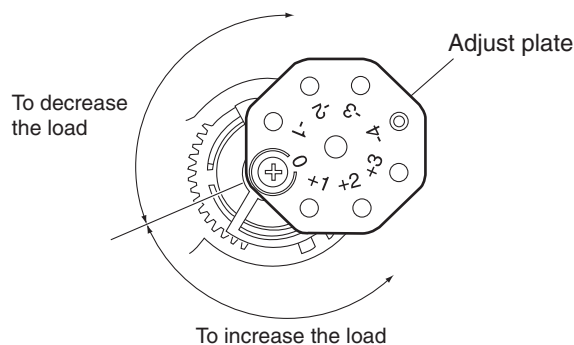

Fig. 2 Adjust plate
- The adjustment value of adjust plate is adjusted to "0" (Refer to Fig. 2).